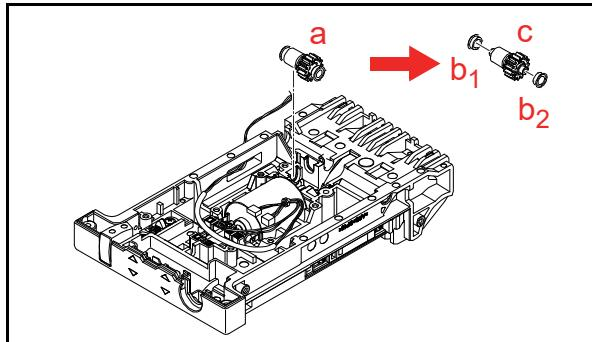

**Figure 4-35 TR Worm Gear (Twin) Removal (RT Frame Unit) 5**
5. Remove the Gear Assy. (Figure 4-35 a).
6. Remove the two (2) Bearings (Figure 4-35 b1 & b2) from the TR Worm Gear (Twin) (Figure 4-35 c).